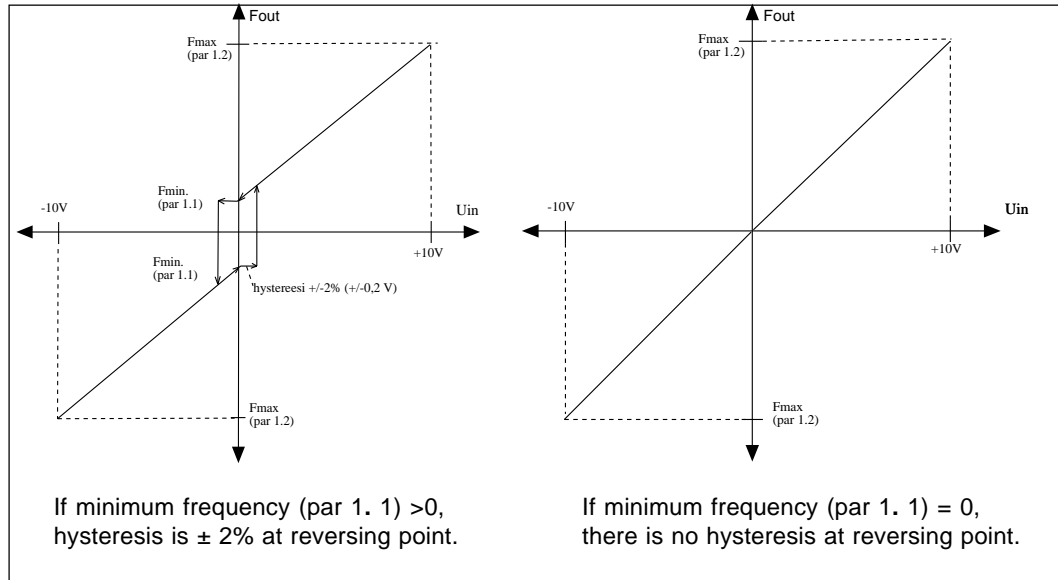

Fig. 5.4-1 Joystick control  $U_{in}$  signal  $-10\text{ V}$ — $+10\text{ V}$ .
**Note!** When joystick control is used, the direction control is generated from the joystick reference signal. See figure 5.4-1.